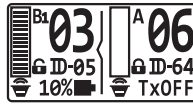

Fig. 32
2. TxOFF is shown when transmitter is powered off, Fig. 32.